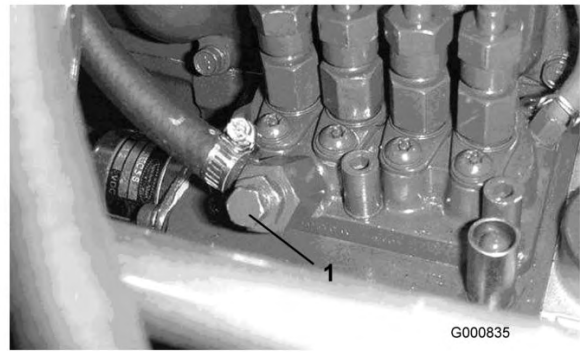

Figure 38
5. Open the air bleed screw on the fuel injection pump (Figure 38).